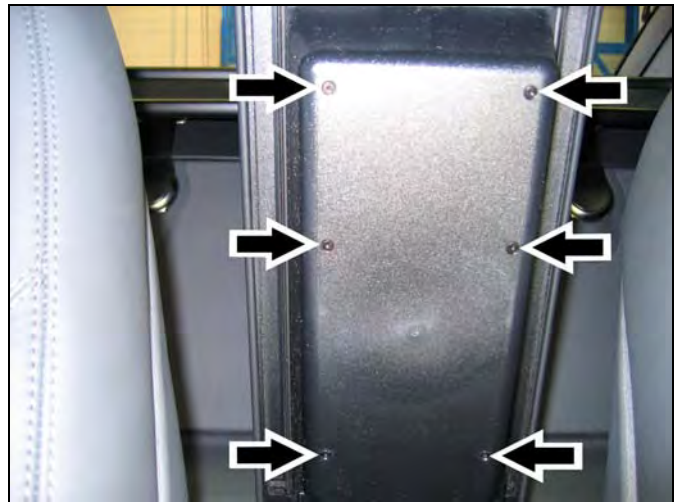

Figure 22
1. Open the lower compartment of the center console and remove the six T10 Torx screws (Figure 22) on the upper compartment underside securing the false floor.